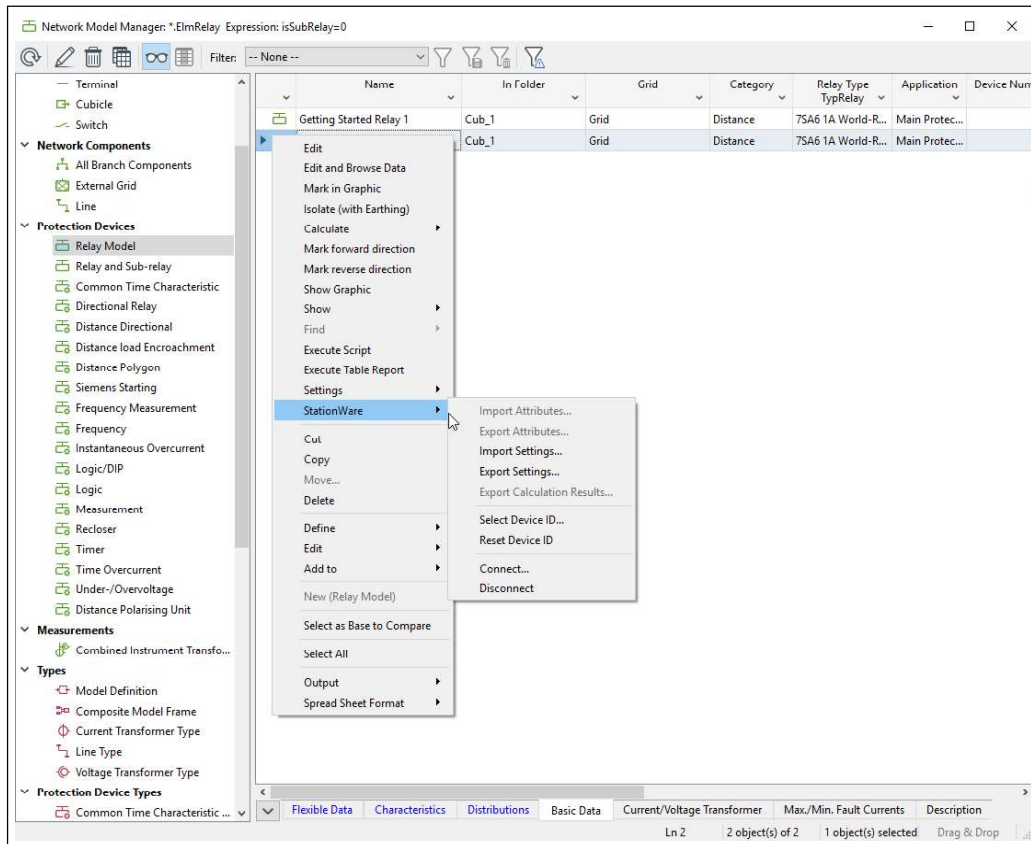

Figure 24.13.12: Device context menu
A context menu pops up as shown in Figure 24.13.12.
- Mark the relays with the mouse and right-click to get the relay context menu as shown in Figure 24.13.12.
- In *PowerFactory* mark the relays with the mouse and right-click to get the relay context menu as shown in Figure 24.13.12.
- in the object filter (Figure 24.13.12)